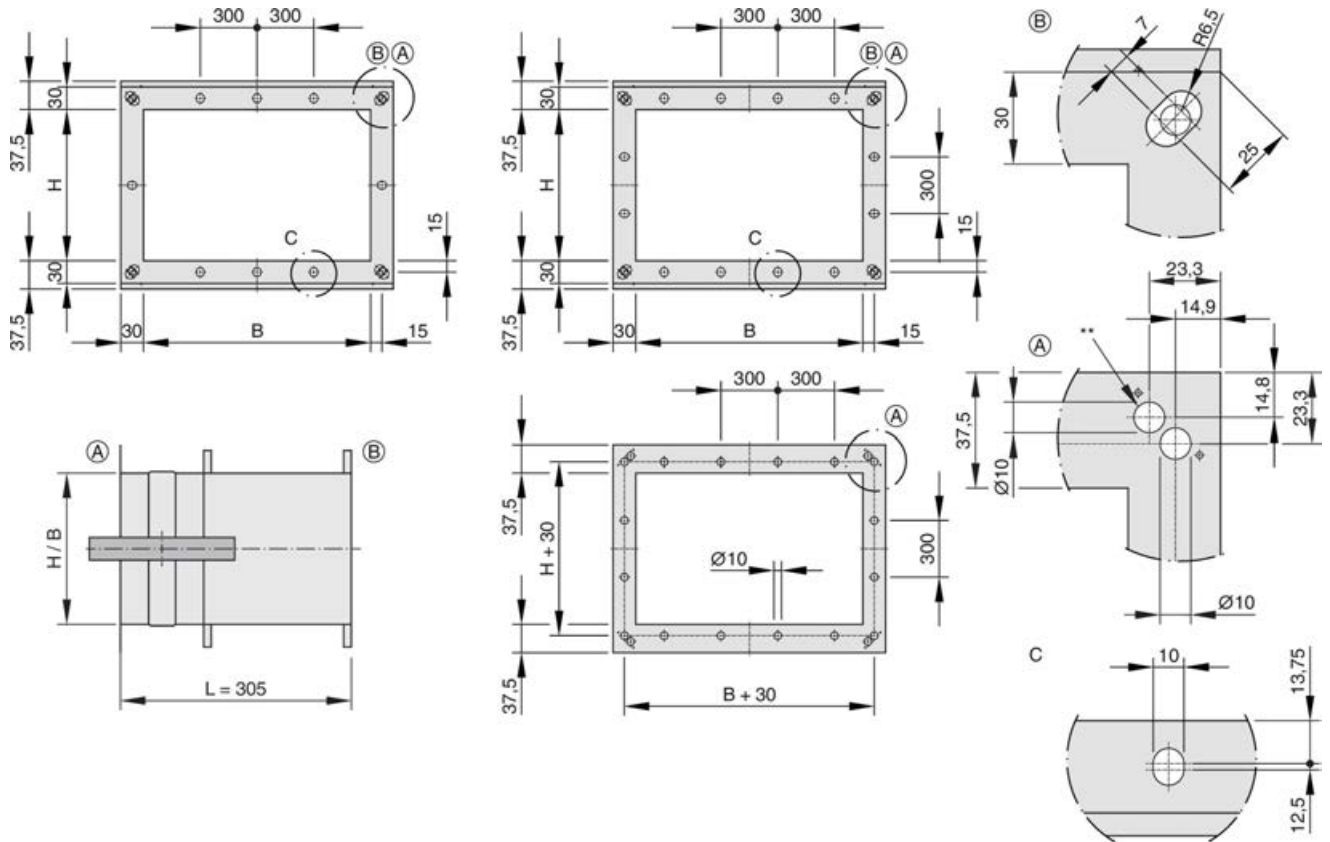

Fig. 3: Flange holes L = 305 mm – uneven and even number of holes
- Flange dimensions for L = 305 mm, see Fig. 3.
- Flange dimensions for L = 305 mm, see Fig. 3 .